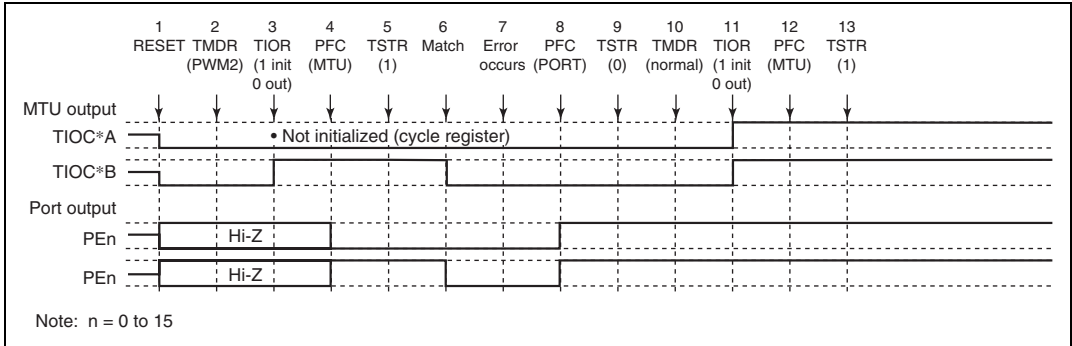

Figure 10.68 Error Occurrence in PWM Mode 2, Recovery in Normal Mode
(9) Operation when Error Occurs during PWM Mode 2 Operation, and Operation is Restarted in Normal Mode: Figure 10.68 shows an explanatory diagram of the case where an error occurs in PWM mode 2 and operation is restarted in normal mode after re-setting.
1 to 9 are the same as in figure 10.68.